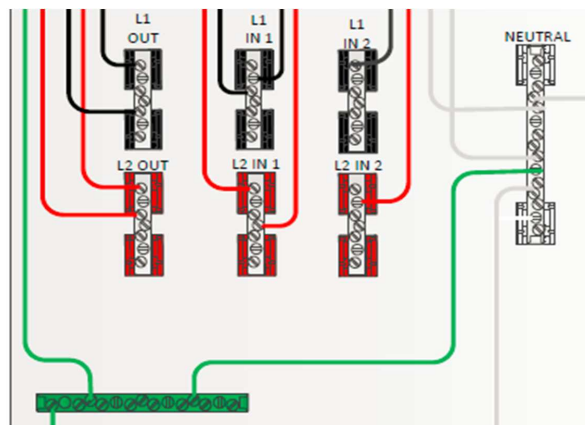

Figure 28 - Neutral to Ground Bond Off-Grid Only
- In an off-grid installation where there is no utility connection, the bond should be done inside the VE Panel as shown in Figure 28.